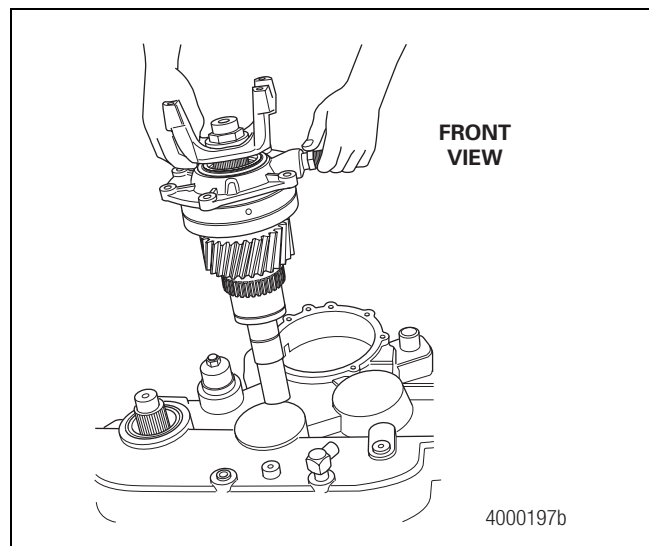

Figure 4.13
- With the front input yoke still installed, remove the yoke, input shaft, input bearing cage and pump, if equipped, as an assembly. Figure 4.13.